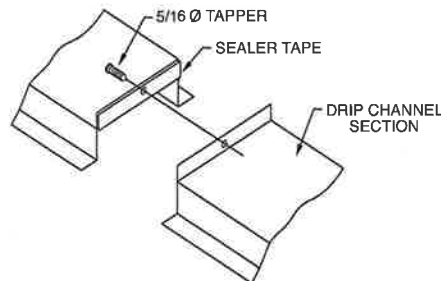

Figure 7 – Drip Channel Assembly
9. Remove the drip channel sections and fasten them together, end to end, by driving a self-tapping 5/16" screw through the section end with the larger hole into the mating end with the smaller hole. Stainless steel units will use 5/16" stainless steel nuts and bolts. (see Figure 7)